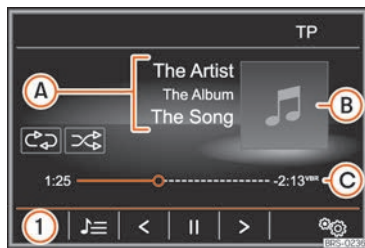

Fig. 203 MEDIA main menu.
- Press the infotainment button **MEDIA** to open the *Radio* main menu»» **Fig. 203**.